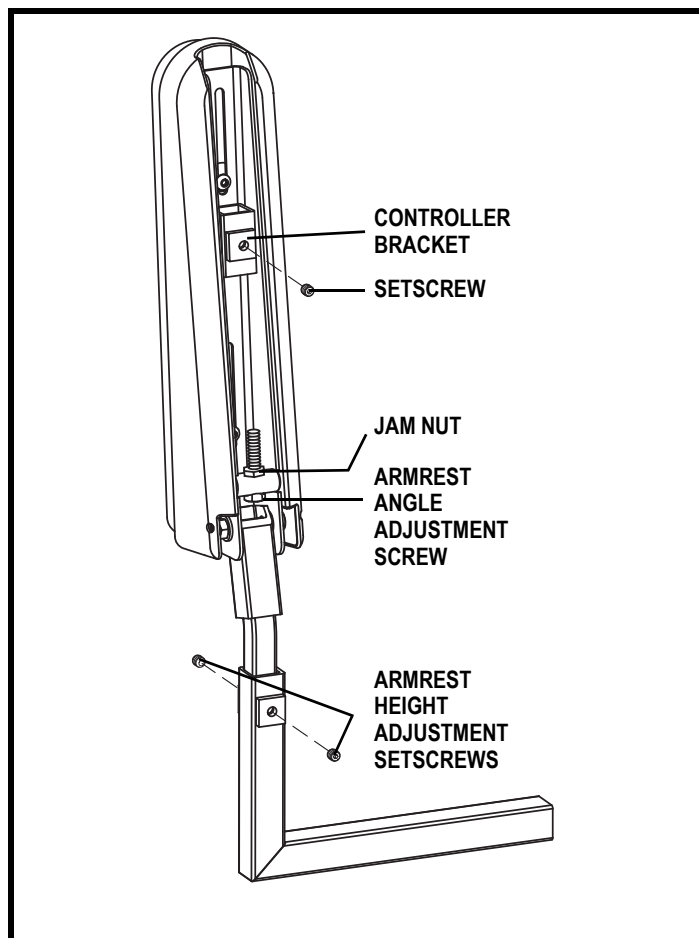

Figure 13. Armrest Angle and Height Adjustment
1. Lift the armrest straight up so that it is perpendicular to the floor. See figure 13.
1. Loosen the setscrews on the armrest. See figure 13.
2. Loosen the setscrew on the controller bracket. See figure 13.
3. Flip up the armrest and loosen the setscrew. See **figure 13**.